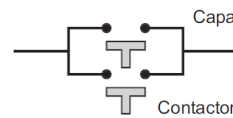
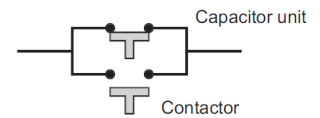
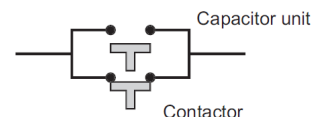

Fig.1
Fig.2
Fig.3
- Fig.1 => Fig.2 => Fig.3
- Fig.3 => Fig.1